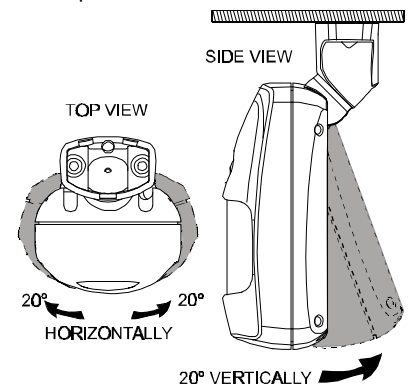

Figure 10. Tilt/Swivel Limits
- J. Tilt down or swivel the detector to face the desired direction. Figure 10 shows the tilt/swivel possibilities.